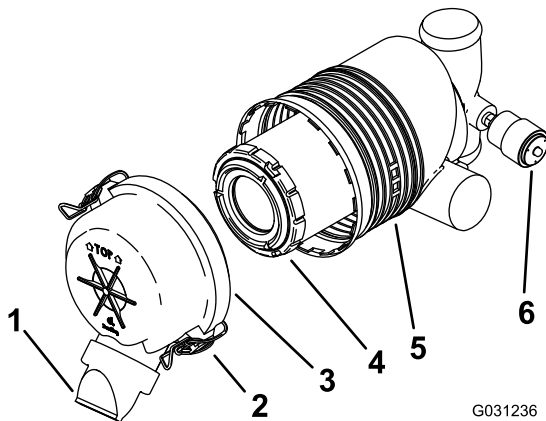

Figure 44
**Important:** Service the air-cleaner filter only when the service indicator shows red (Figure 44). Changing the air filter before it is necessary only increases the chance of dirt entering the engine when the filter is removed.
4. Release the latches on the air cleaner and pull the air-cleaner cover off the air-cleaner body (Figure 44).
1. Gently slide the filter out of the air-cleaner body (Figure 44).
4. Carefully install the filter (Figure 44).
5. Install the air-cleaner cover with the side indicated as TOP facing up and secure the latches (Figure 44).